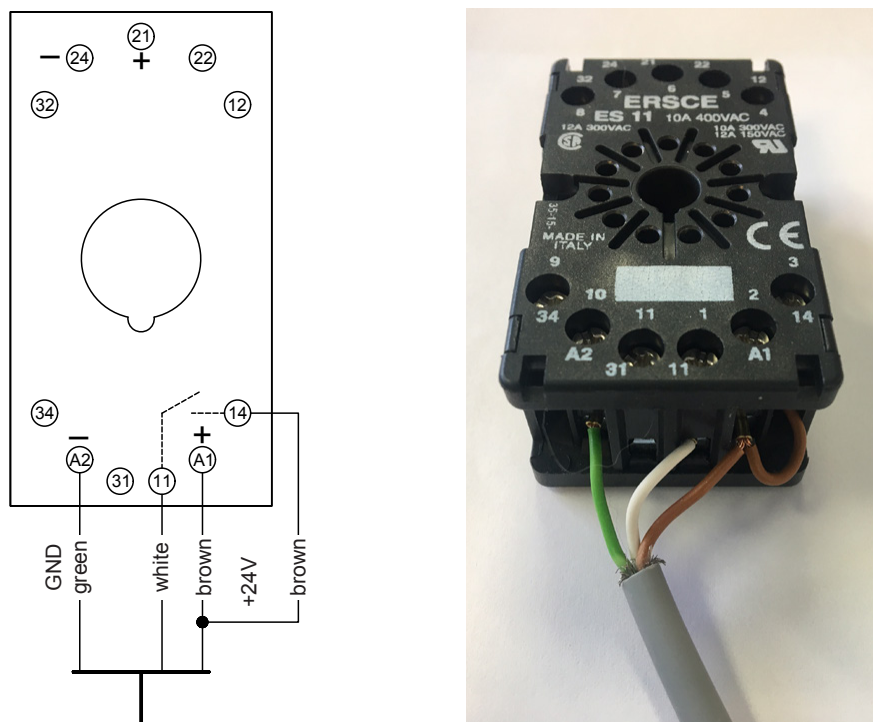

Fig. 5: Leak detector base connections
- Pull off the red operating part from the base of the leak detector supplied. Connect the provided three-core cable to the terminals on the leak detector base as shown in Fig. 5.